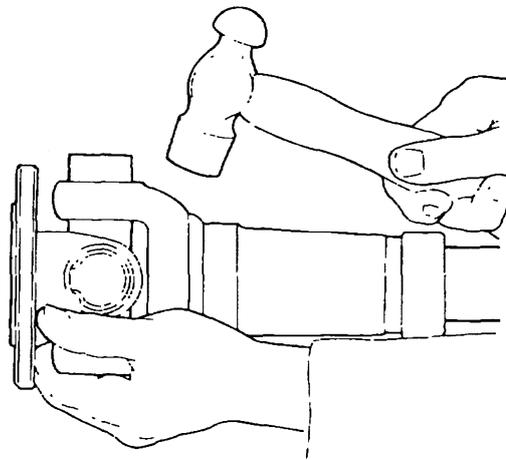

Figure 90 Bearing Cup Removal
- c. Remove and discard the bearing cups and spider (Figure 90).